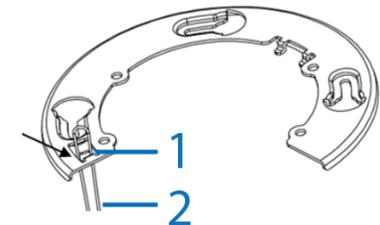

Figure 5
9. Insert the camera safety wire (2) (Figure 5) onto the 'hook' (1) (Figure 5) on the flat bracket.